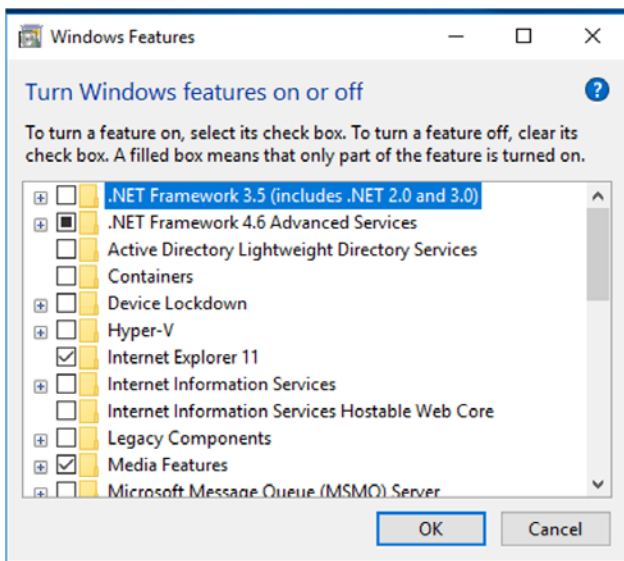

Figure 3. Turning Windows Features On or Off
- b. Select the **Turn Windows Features on or off** section. This selection lists the features currently installed. Select **.NET Framework 3.5 (includes .NET 2.0 and 3.0)**. Figure 3 shows this dialog box as it appears in Windows 10.